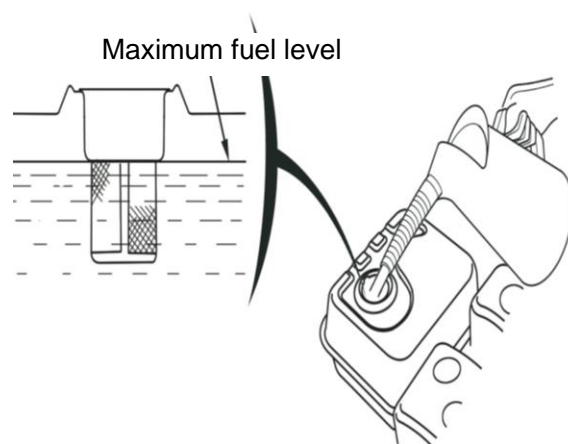

Fig 4-9
2.4.1. Do not allow the fuel to overflow the fuel tank. The maximum fuel level is shown as below. Wipe up any spilled gasoline with a dry cloth immediately. (Fig 4-9) .